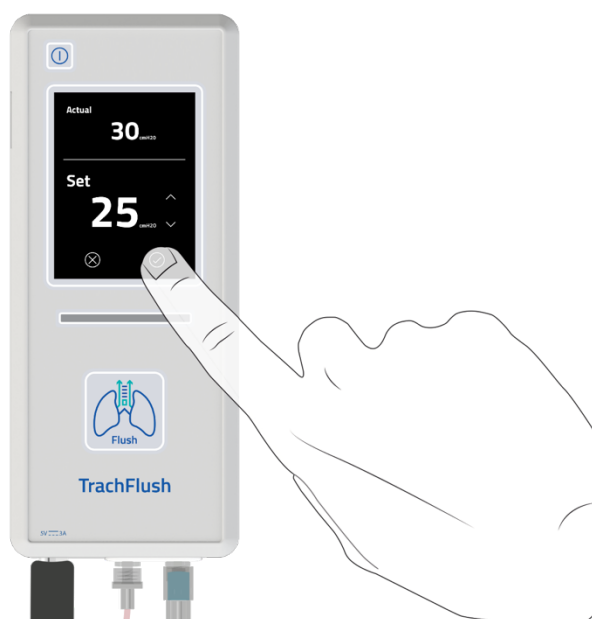

Figure15: Accept decreased cuff pressure
**Step 2:** To accept the new cuff pressure changes and apply a new pressure setting to the cuff, press  (accept) as shown on figure 15 below. The cuff will now be deflated until the Actual and Set cuff pressure is the same. .